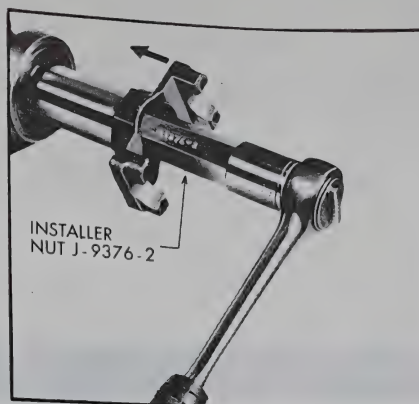

Figure 4-148—Installing Front Companion Flange
23. Install Front Companion flange (see Figure 4-148).